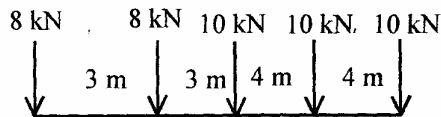

Fig. 2
3. The following system of wheel load crosses a simply-supported span of 25m. The series of wheel loads are shown in Fig. 2. Find the maximum bending moment and maximum SF in the span. Also, find the maximum bending moment at 10 m from left end. 20